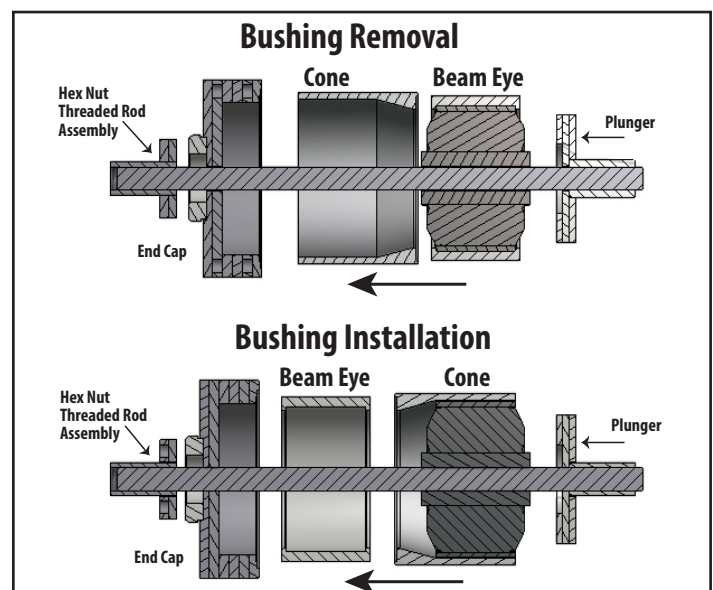

Figure 10. Bushing Replacement Tool 6100044 is for RAR-266 suspensions with narrow bushing.
2. Assemble the bushing replacement tool and place on the eye of the beam (Figure 10). NOTE: Cone is tapered inside to a smaller opening on one end.
4. Assemble the bushing replacement tool and place on the eye of the beam (Figure 10).